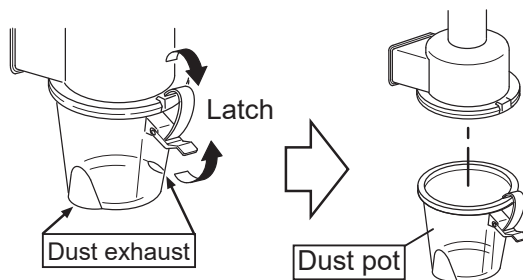

Fig.9-6
- i) Latch off to remove Dust Pot. (Fig.9-6)